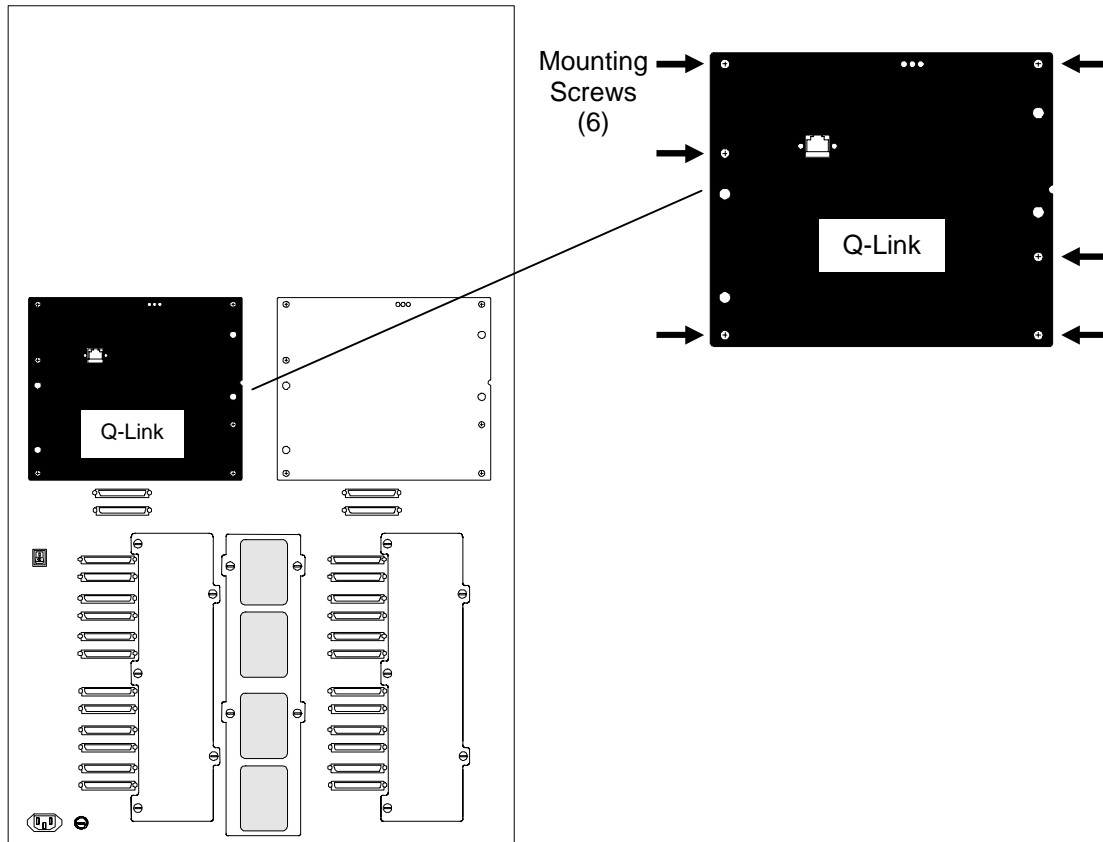

Figure 7-46 Q-Link on Rear of TLS
2. Use a number 2 Phillips screwdriver to remove all six Q-Link panels mounting screws (Figure 7-46), then move the panel backwards to access the cables.
4. Using a Phillips screwdriver, secure Q-Link to the rear of the TLS using the six screws removed earlier. Refer to Figure 7-46.